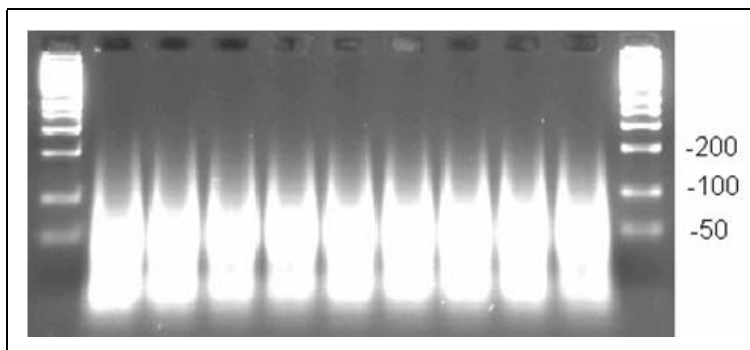

Figure 4.7
4. Inspect the gel and compare it against the example shown in Figure 4.7 below.